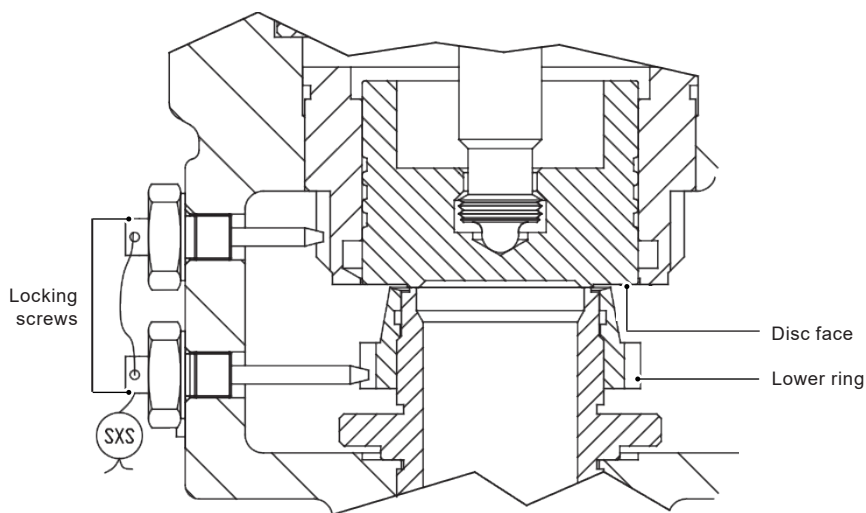

Fig. 3
5. Move the lower ring (03) upwards (anti-clockwise) until it contacts the face of the disc (Figure 3).